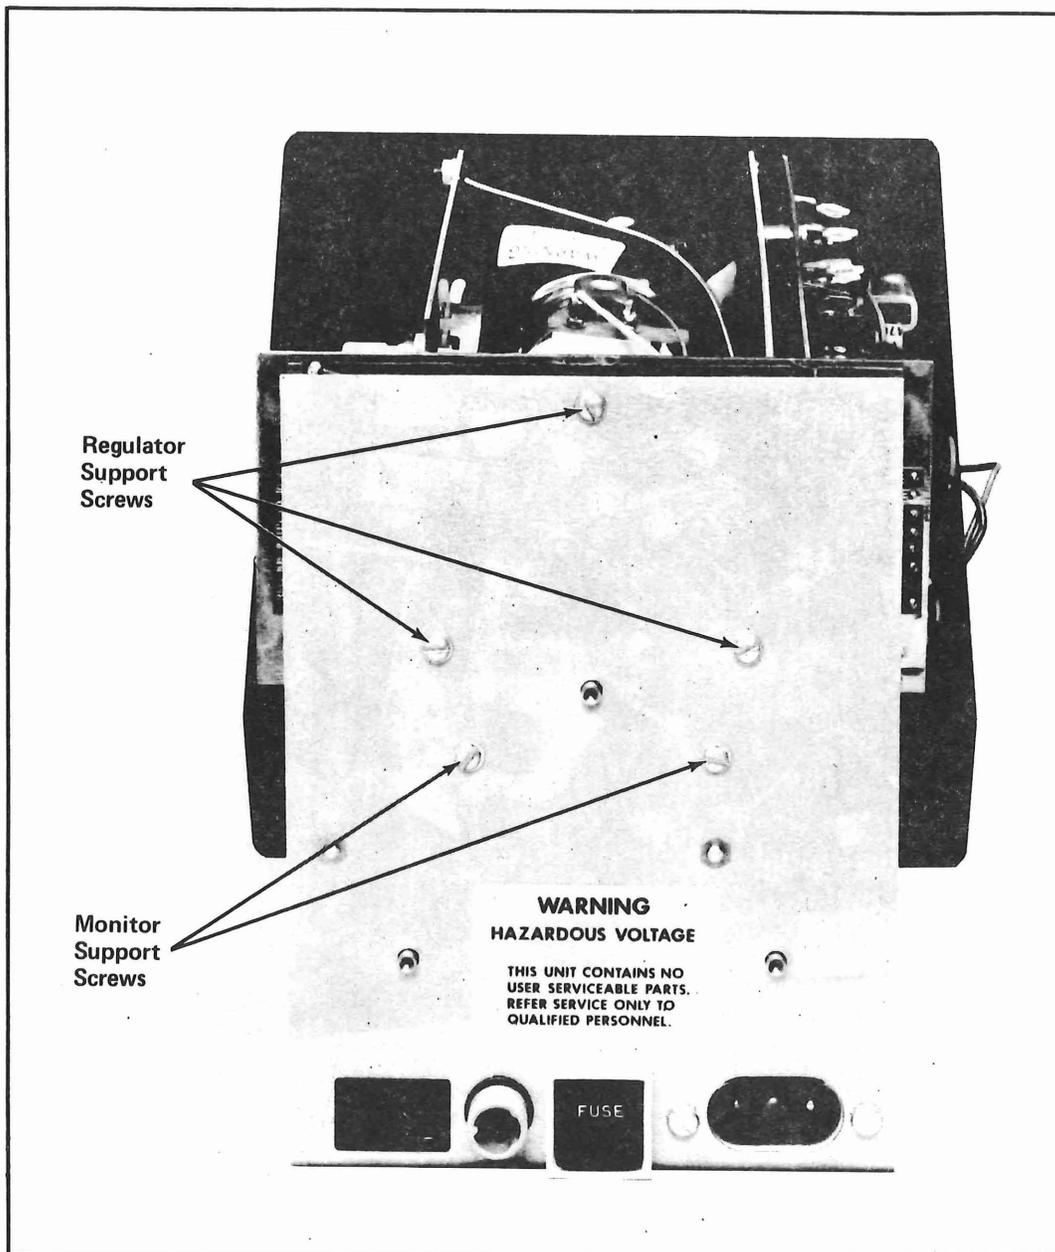

Figure 4-5. Rear View of Chassis
- (e) Remove the three regulator support screws (#4-40) from the back chassis. (See figure 4-5.)
- (b) Install the two bottom #4-40 screws into the back panel. Do not tighten. (See figure 4-5.)
- (d) Install the top #4-40 screw into the back panel and tighten all three screws. (See figure 4-5.)
- (e) Remove the two monitor support screws (#4-40) from the back of the chassis. (See figure 4-5.)
- (b) Install the two support screws (#4-40) in the back of the chassis. (See figure 4-5.)